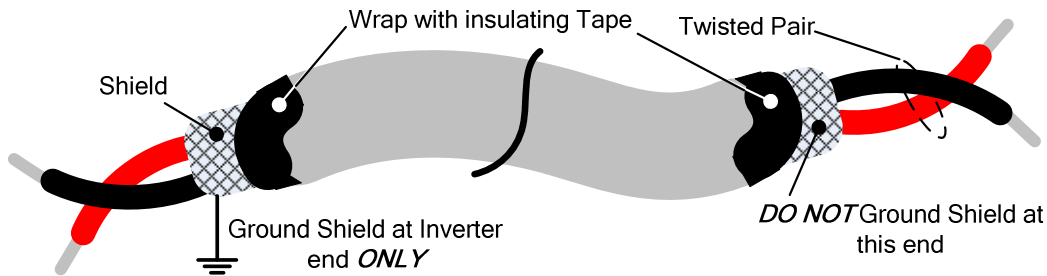

Fig. 3.17.1 Shielded Twisted-Pair
- (1) Separate the wiring for control circuit terminals from main circuit wiring for terminals (R/L1, S/L2, T/L3, U/T1, V/T2, W/T3).
- (2) Separate the wiring for control circuit terminals R1A-R1B-R1C (or R2A, R2C) (Relay outputs) from wiring for terminals ① - ③, A01, A02, GND, DO1, DO2, DOG, +10V, (-10V), AI1, AI2 and GND wiring.
- (3) Use shielded twisted-pair cables (#24 - #14 AWG / 0.5 - 2 mm²) shown in Fig. 3.17.1 for control circuits to minimize noise problems. The maximum wiring distance should not exceed 50m (165 ft).